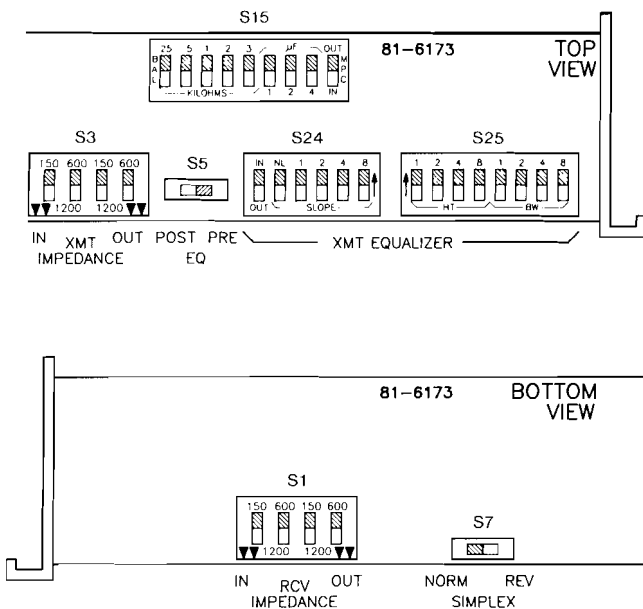

figure 8. 6173 option switch locations
3.05 Several option switches must be set before the 6173 is placed into service. Locations of these switches and of certain alignment switches on the module's printed circuit board are shown in figure 8. Table 6 summarizes all switch options and provides a convenient **checklist** that can be filled out either prior to installation for prescription optioning or during installation to serve as a record for later reference. Refer to figure 8 and table 6, and set each option switch on the 6173 as required.